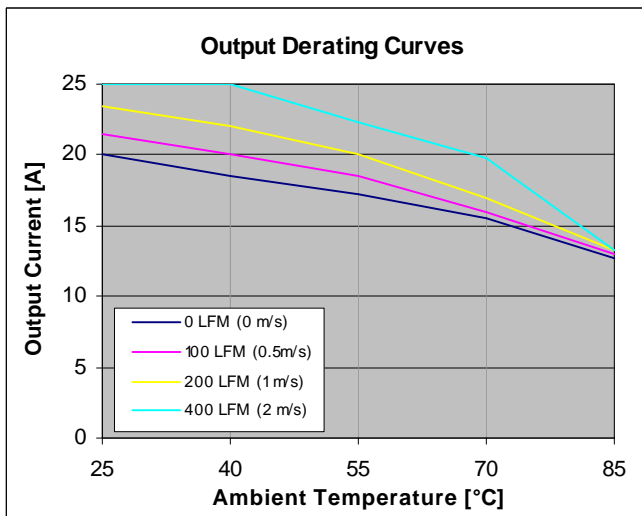

Figure 9. Output Derating curves at $V_{IN} = 48Vdc$ with 400LFM airflow directed across pin 3 to 1.
2. Output Derating applies. See Figure 9.